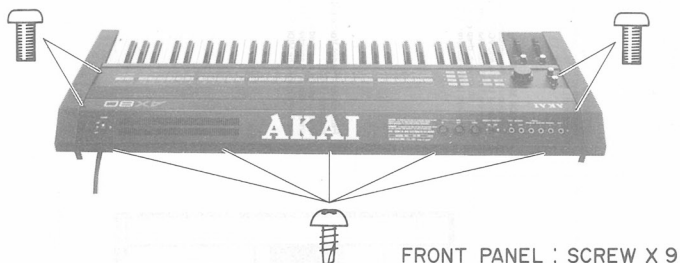

Fig. 2-1
- 1) Remove nine screws in Fig. 2-1.